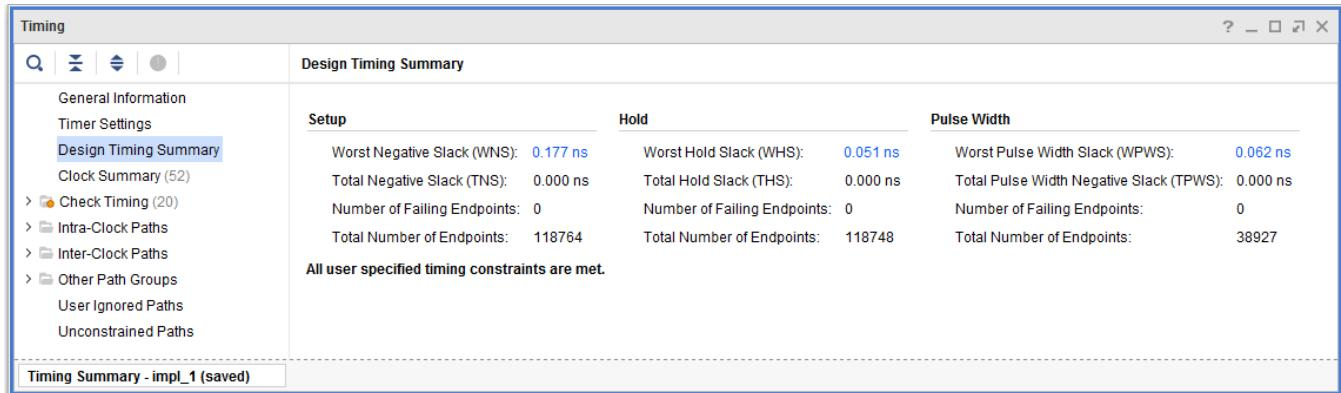

Figure 106: Timing Summary
- Verify that all timing constraints have been met by looking at the Timing - Timing Summary window, as shown in Figure 106.